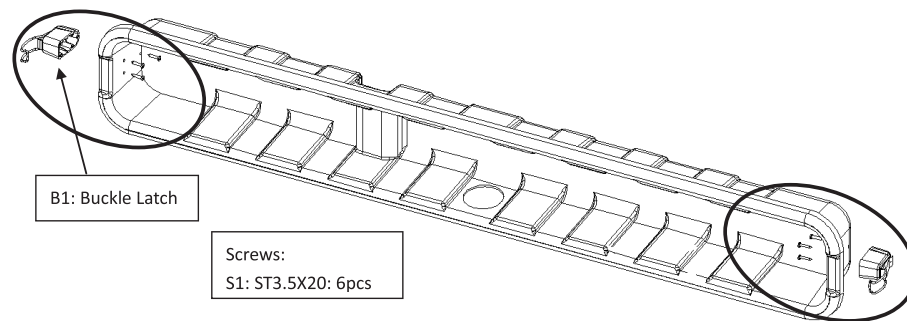

Figure 1
- Assemble the two buckle latches (B1) onto the Storm Shell Back using the S1 screws (Figure 1).